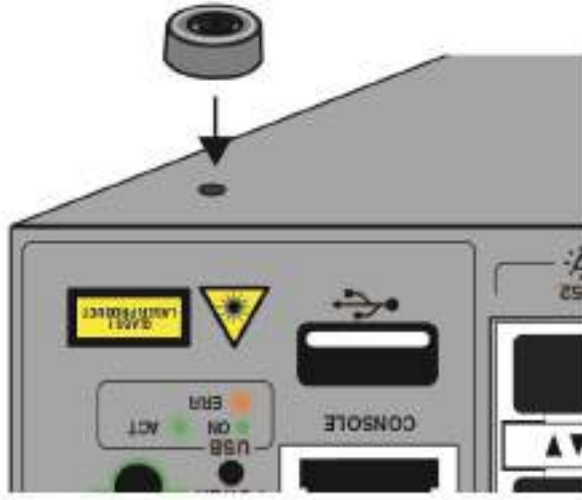

Figure 62. Placing the Bumper Foot on a Base Corner Hole
3. Place the bumper foot onto one of the holes in the base of the switch. Refer to Figure 62.